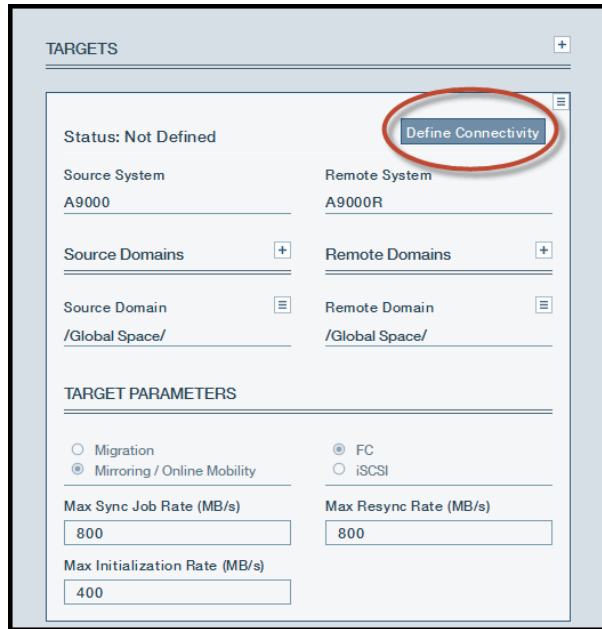
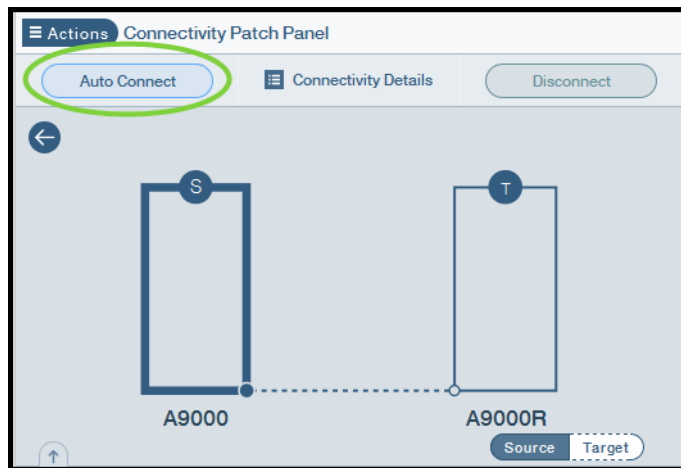

Figure 1-21 Define connectivity
Figure 1-22 Define Connectivity Detail Display
- As shown in Figure 1-21, define connections by clicking **Define Connectivity** in the Targets panel to open the detail window, as shown in Figure 1-22.